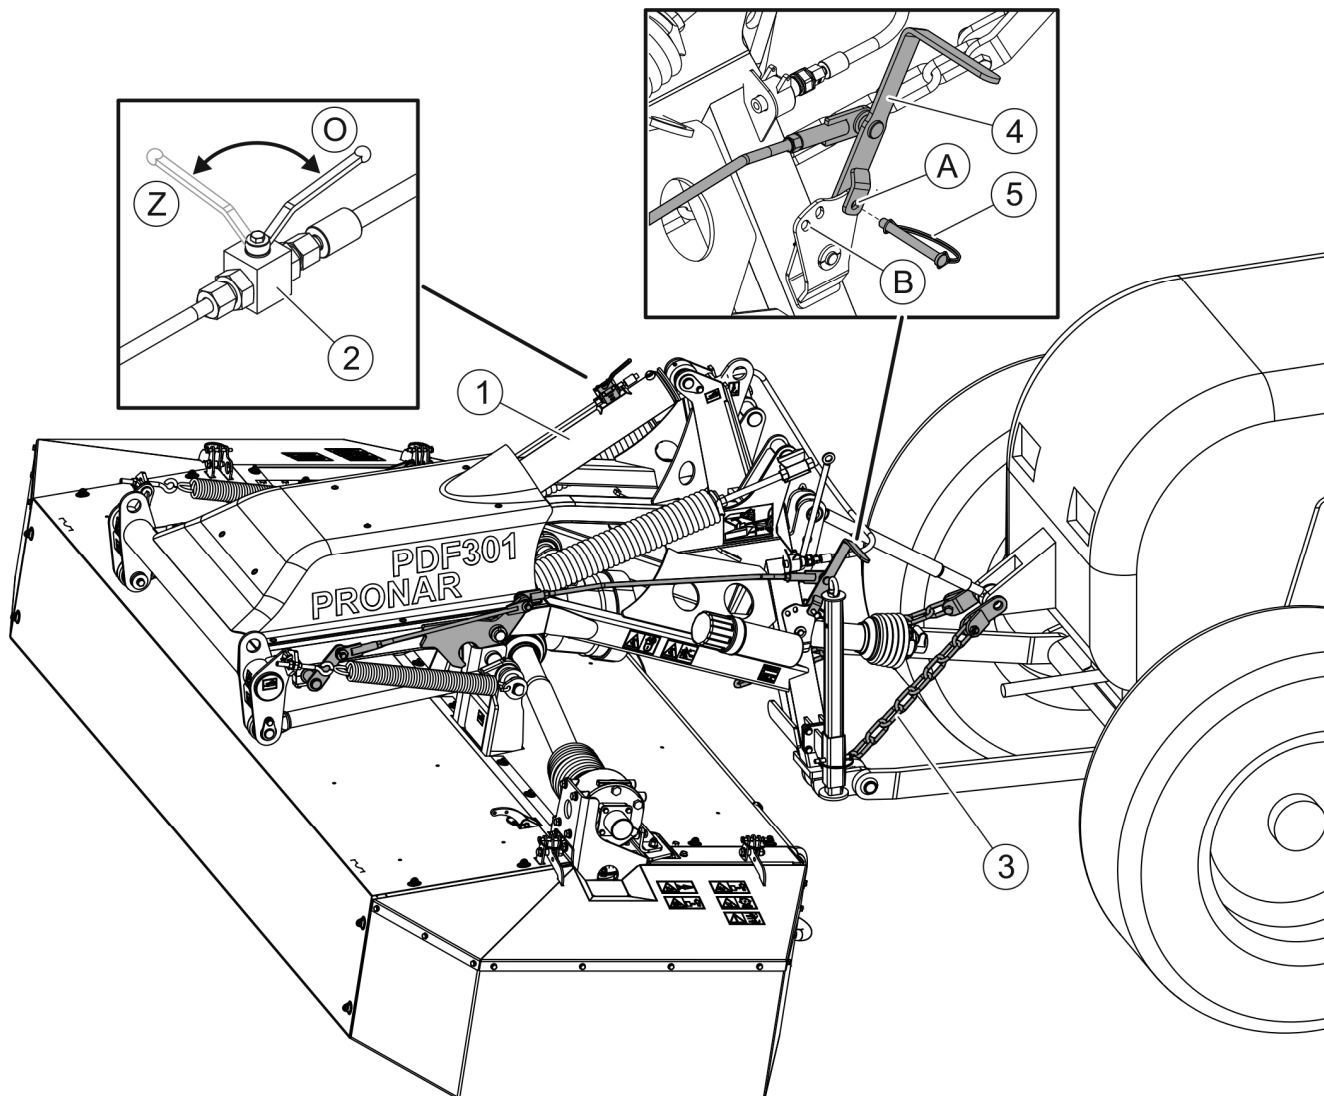

FIGURE 4.3 Locking the mower in the transport position
- lift the main frame with the cutting unit by means of the mower's hydraulic cylinder (1) (FIGURE 4.3) by operating the tractor's external hydraulic system lever.
- secure mower against falling by closing cut-off valve (2) located on the hydraulic cylinder. Set valve in position (Z) „CLOSED”.
- secure with relief chains (3) (FIGURE 4.3) if the bottom tension rods of the tractor's three-point linkage system drop under the machine's weight.
- lock in transport position using securing pin (4) suitably secure using a cotter pin (5).
- the mower is locked correctly with the securing pin (4) (FIGURE 4.3).
Do NOT transport the mower with the cut-off valve (2) of the cylinder in the open position (O) (FIGURE 4.3) .
- set the cut-off valve (2) to position (O) „OPEN”, unlock the locking lever (4) and secure with the cotter pin (5) (FIGURE 4.3),